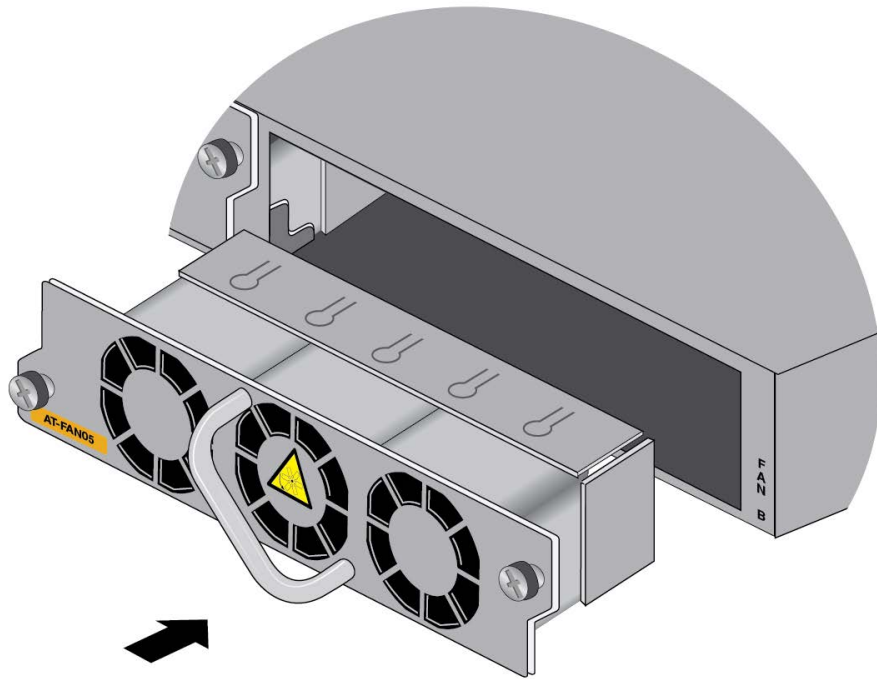

Figure 158. Aligning the FAN05 Module in the Switch Slot
2. Align the fan module in the slot. Refer to Figure 158 on page 264.